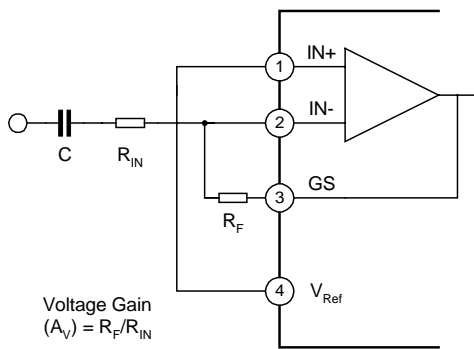
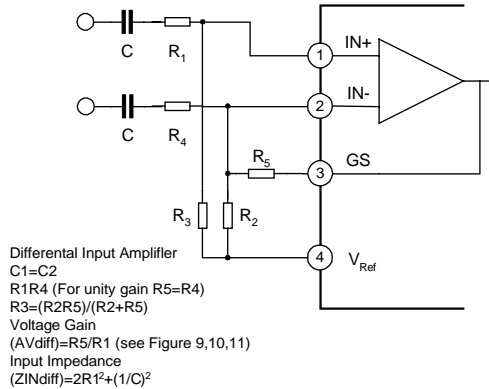

Figure 6 Single Ended Input Configuration
Figure 7 Differential Input Configuration
The SC88E43 provides an input arrangement comprised of an operational amplifier, and a bias source (V_{ref}) which is used to bias the opamp inputs at $V_{DD}/2$. The feedback resistor at the opamp output (GS) can be used to adjust the gain. In a single-ended configuration, the opamp is connected as shown in Figure 6. For a differential input configuration, Figure 7 shows the necessary connections.